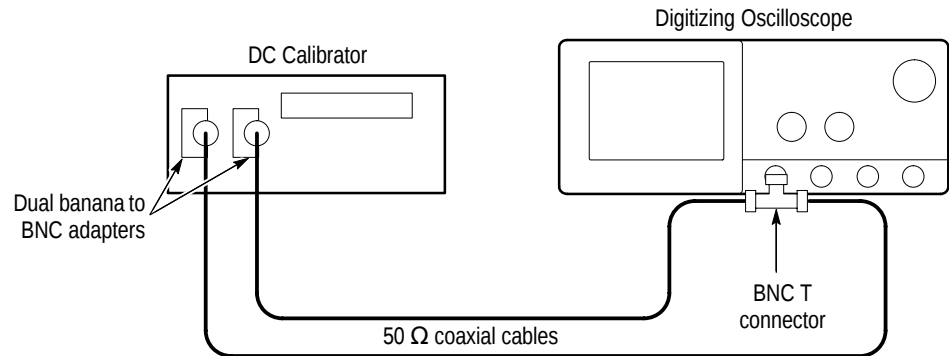

Figure 4–24: Subsequent test hookup
- Connect the Sense output of the generator through a second dual-banana connector followed by a 50  $\Omega$  precision coaxial cable to the other side of the BNC T connector. Now connect the BNC T connector to **CH 1**. See Figure 4–24.
- f. Press **CLEAR MENU** to remove the menus from the display. See Figure 4–25.